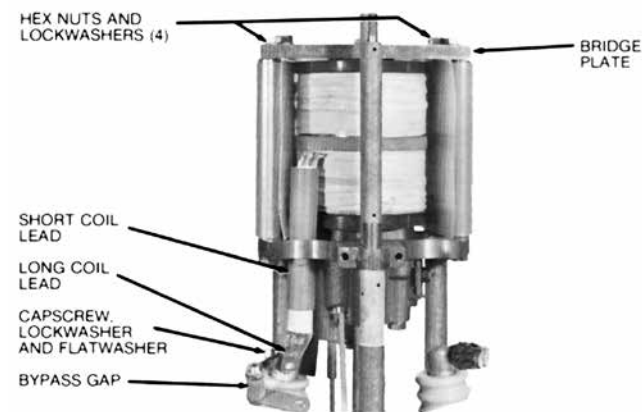
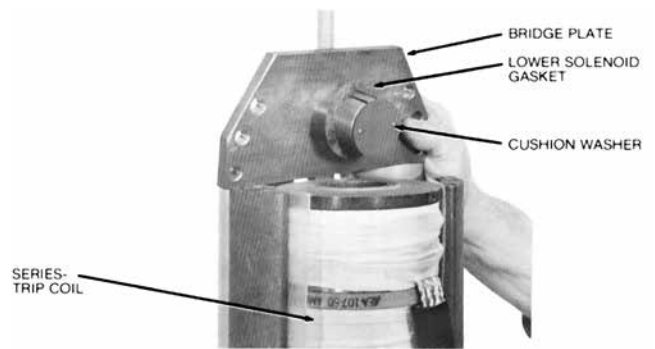

Figure 18. Removing coil leads
Figure 19. Removing the bridge plate
2. Disconnect coil leads. The short coil lead is disconnected while removing the arc interrupting assemblies. The long coil lead and bypass gap are disconnected from the bushing by removing the capscrew, lockwasher, and flatwasher (Figure 18).
3. Using a 3/4-in. box wrench, remove the four hex nuts and lockwashers that secure the solenoid bridge plate (Figure 18). Lift this plate off as shown in Figure 19. Note that a cushion washer is attached to the plate.